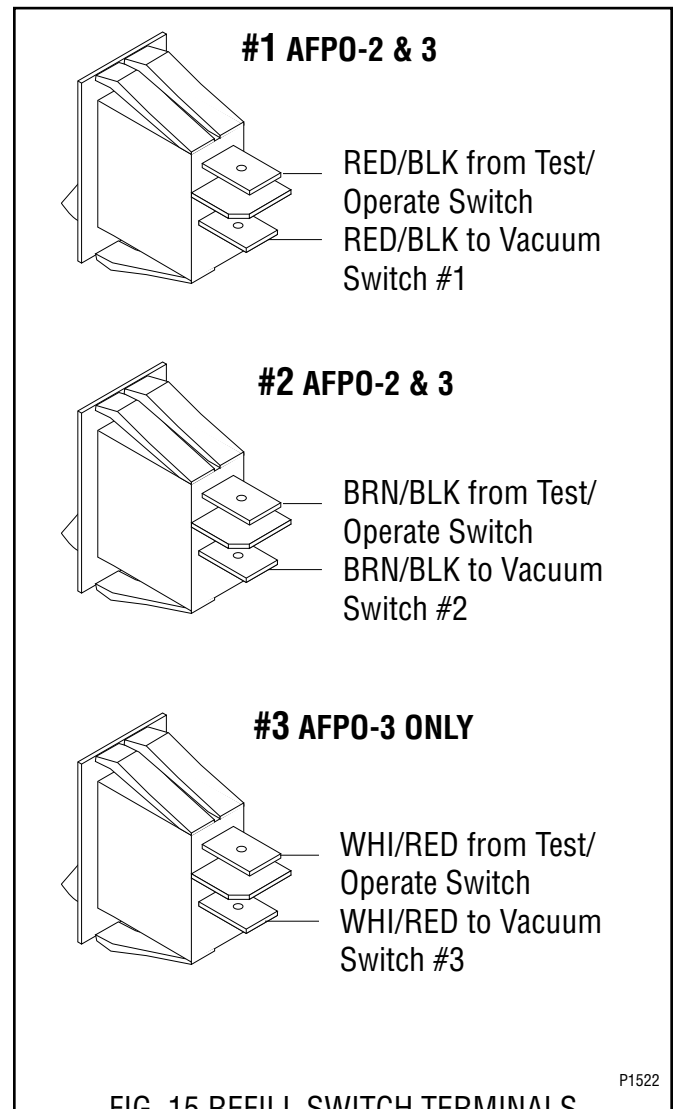

FIG. 15 REFILL SWITCH TERMINALS
4. Refer to Fig. 15 when reconnecting the wires.